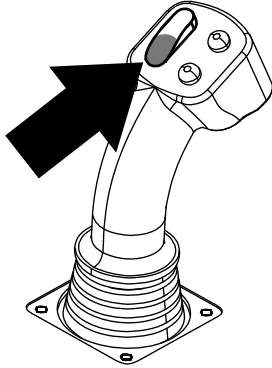
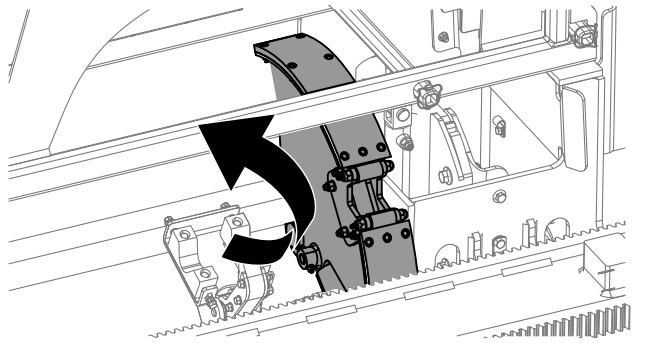

Figure 18
Figure 19
9. Hold the lower section of the rocker switch (Figure 18) until the cam assembly rotates to the selected row under the pipe box (Figure 19).